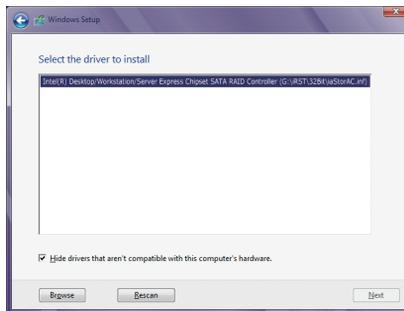

Figure 1
When a screen as shown in Figure 1 appears, select **Intel(R) Desktop/Workstation/Server Express Chipset SATA RAID Controller (G:\IRST\32Bit\UpdStrAC.inf)** and click **Next** to load the driver and continue the OS installation.